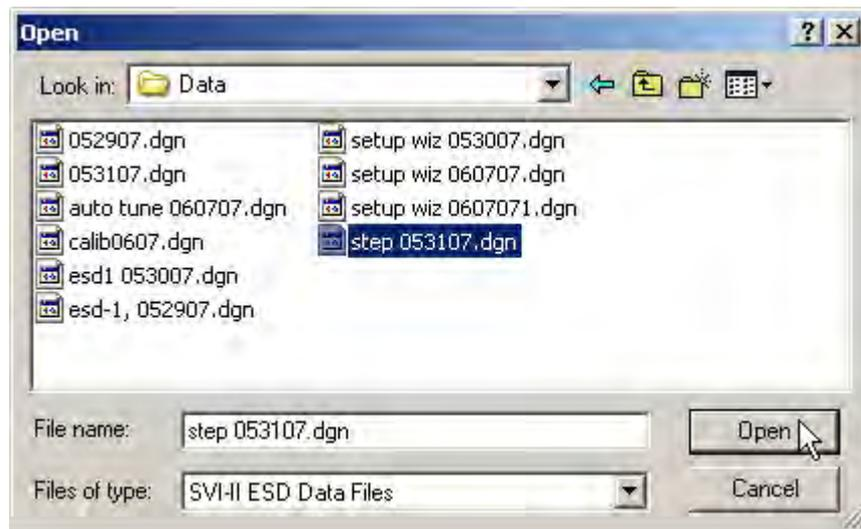

Figure 150 Opening File for Additional Curve
2. Locate and select the file name and click **Open** (Figure 150).